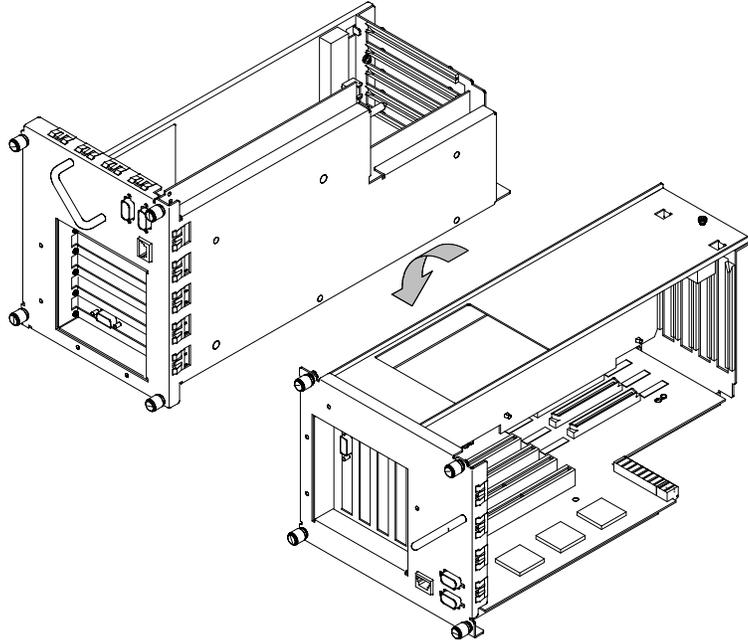

Figure A-38. Rotating the EISA Assembly Back
8. Rotate the unit back 90 degrees as shown in Figure A-38 and grasp the handle.